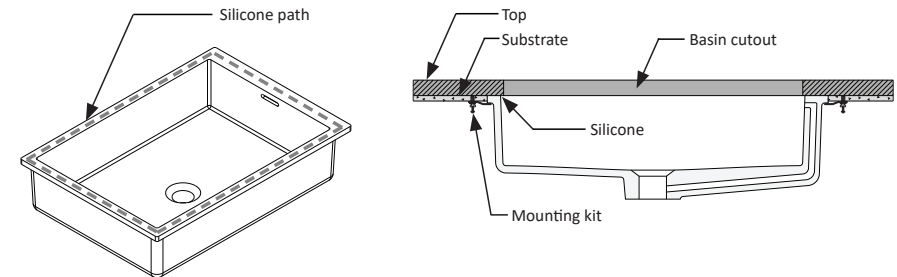

Figure 4.
8. Place waste through the basin with seals in place and tighten nut to secure waste in basin. See figure 4.